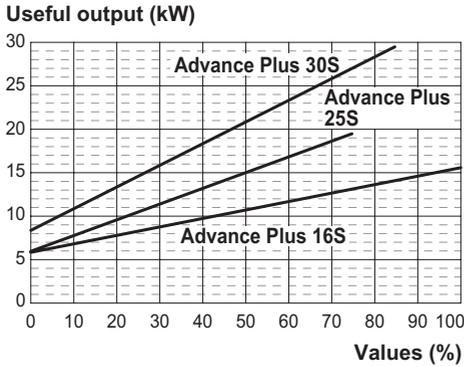
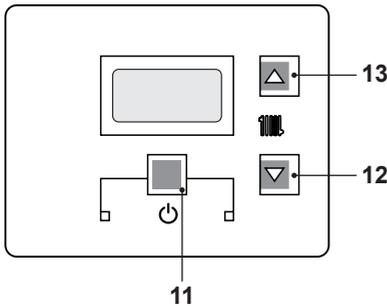
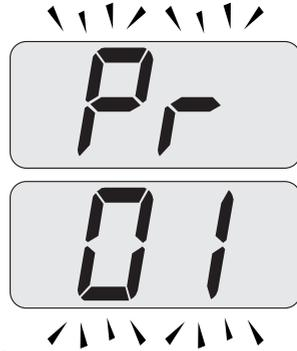
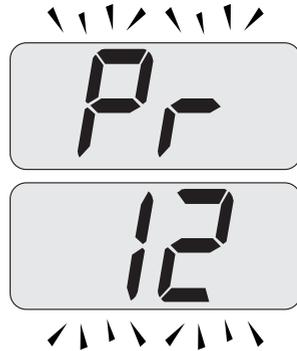

Fig. 7.41
Fig. 7.42
Fig. 7.43
Fig. 7.44
Refer to Fig. 7.41 and determine the correct Value appertaining to the output required for the central heating requirement.
- Enter the "programming mode" by pressing keys 11 - 12 - 13 (Fig. 7.42) for 10 seconds at the same time until the letters **Pr** that alternate with code **01** are displayed on the LCD display, indicating that "parameter 01" (Fig. 7.43) has been activated.
- Scroll the various parameters using keys 12 or 13 until the letters **Pr** that alternate with code **12** are displayed on the LCD display, indicating that "parameter 12" (Fig. 7.44) has been activated.
- Press keys 11 and 13 (Fig. 7.42) at the same time until the value of parameter 12 (99=Advance Plus 16S - Advance Plus 25S - Advance Plus 30S) is displayed on the LCD display (Fig. 7.45).
- It is possible to modify parameter using keys 12 or 13 (Fig. 7.42) (Refer to Fig. 7.41 and determine the correct Value appertaining to the output required for the central heating requirement.).
- By pressing key 11 (Fig. 7.42) confirmation of the inserted value is obtained.
- Press keys 11 and 12 (Fig. 7.42) at the same time to exit without changing the value (return to the parameters list Fig. 7.44).
- Press keys 11 - 12 - 13 (Fig. 7.42) at the same time for 10 seconds to exit the "programming mode".